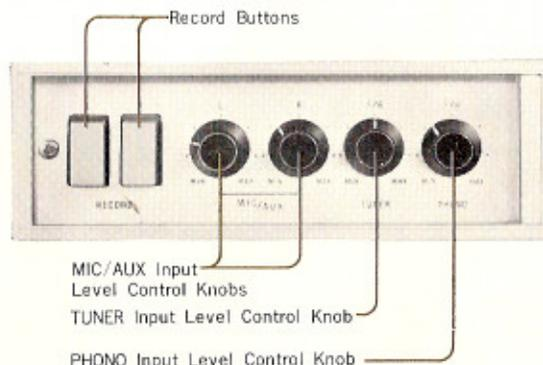

Fig. 2
A. Record Buttons B. MIC/AUX Input Level Control Knobs C. TUNER Input Level Control Knob D. PHONO Input Level Control Knob: all the above mentioned controls are located inside the compartment on the front panel. Slide the lid towards the right for access to these facilities: (See Fig. 2)